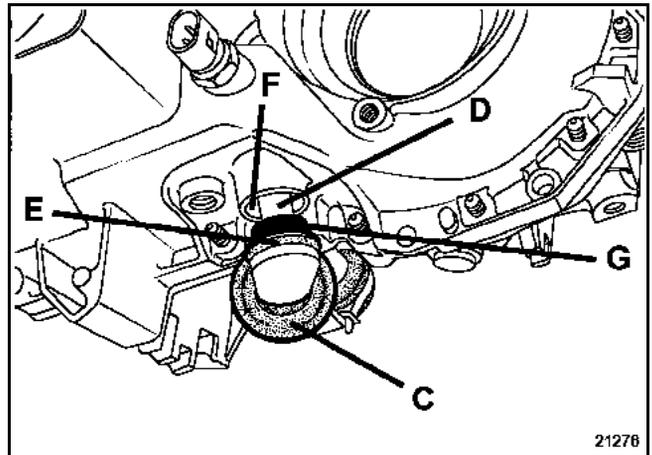

Fig. 2
- Slide the dust seal gaiter (C) along the selector shaft (D) (**Fig. 2**).
- Remove the selector shaft seal (E) from its housing (F) and allow the oil to flow along the selector shaft (D) (**Fig. 2**) for 2 hours.
- Degrease the selector shaft seal (E), the selector shaft (D) and the seal housing (F) (**Fig. 2**) with a cleaner (for example **Part no.: 77 11 171 911**).
- Place a strip of SCELBLOC around the perimeter of the seal (E) on the zone (G) (**Fig. 2**).